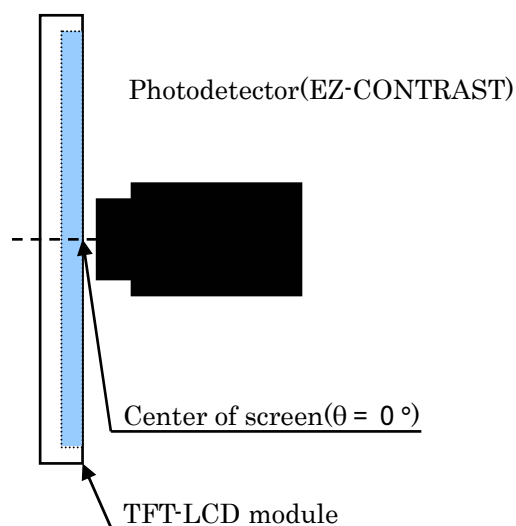

Fig.10-1 Viewing angle / Range / Contrast /
*Measured after 30minutes operation. The optical characteristic is measured by using the method of fig.10-1 and fig.10-2 under the condition of the darkroom or equivalent to it.